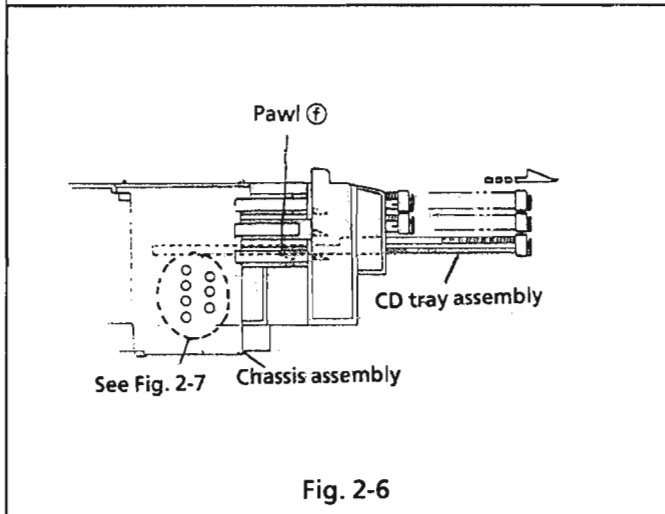

Fig. 2-6
12. And, pull all 3 CD tray assemblies forward until they stop. (See Fig. 2-6.)